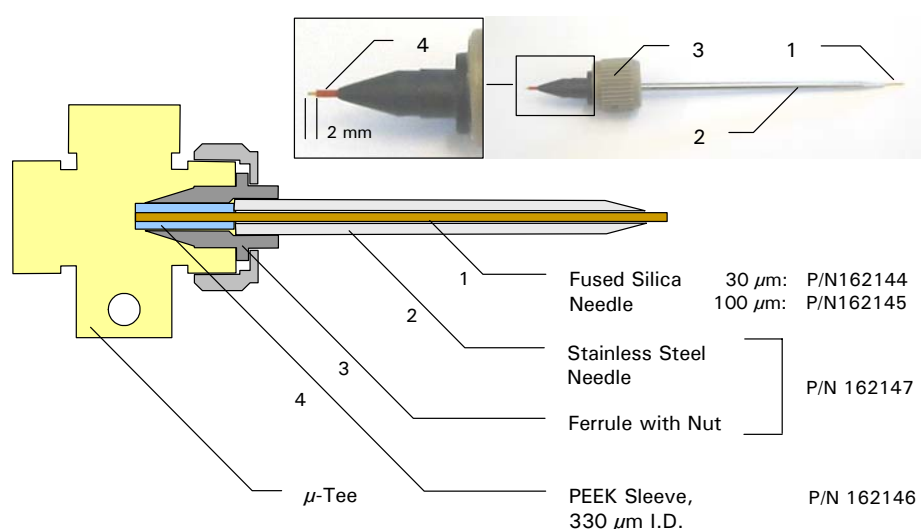

FIGURE 3-7 Fused Silica Fractionation Needle with Stainless Steel Supporting Needle
- Put the replacement fused silica needle with the short (10 mm) PEEK sleeve around it through the stainless steel needle starting at the ferrule side. Let the PEEK sleeve and fused silica needle protrude for approximately 2 mm (FIGURE 3-7).